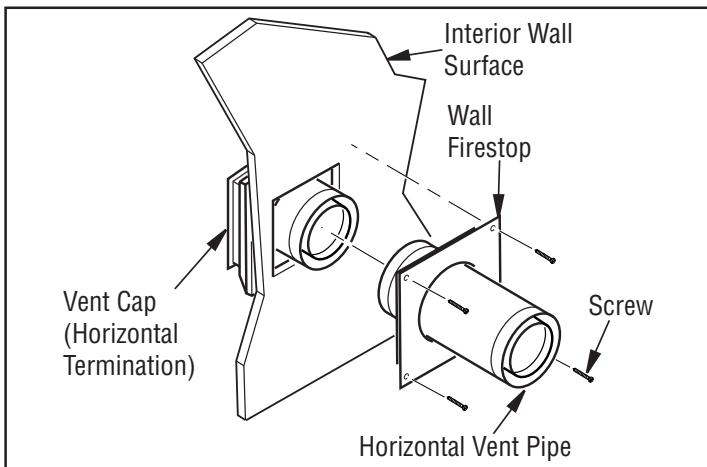

Figure 13 - Connecting Vent Cap with Horizontal Vent Pipe
6. Connecting Vent Cap with Horizontal Vent Pipe: Slide wall firestop over vent pipe before connecting horizontal run to vent cap (see **Figure 13, Page 14**).